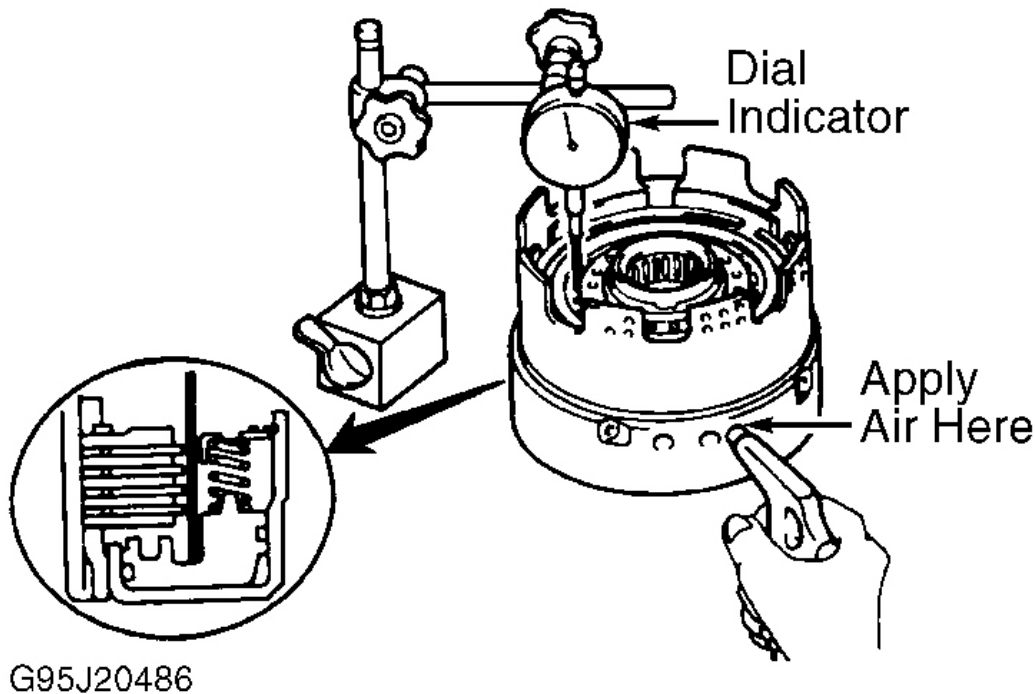

Fig. 33: Removing Direct Clutch Piston & Measuring Stroke
on OD support and apply air pressure to piston supply port and remove clutch piston. See **Fig. 33** .
3. Install flange with flat end facing toward disc. Place clutch drum on OD support. Measure piston stroke with a dial indicator while applying 57-114 psi (4-8 kg/cm²) to the piston supply port. See **Fig. 33** .